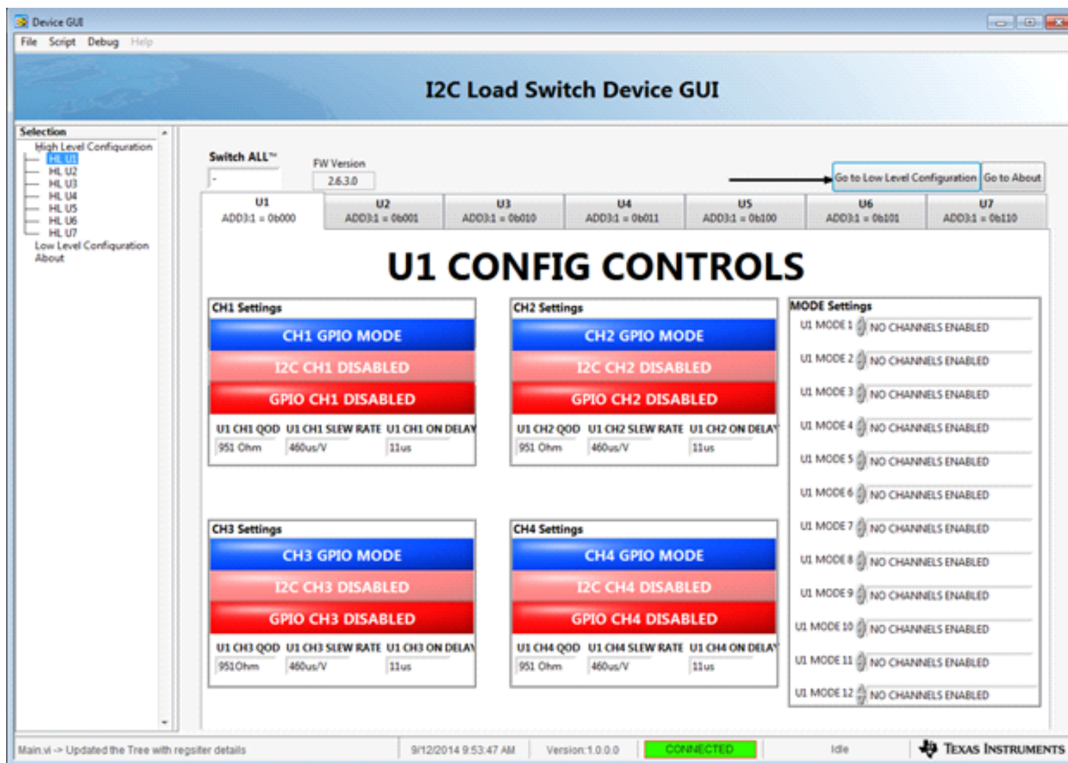

Figure 5. I²C Load Switch GUI Application Window
- (A) Go to All Programs >>> Texas Instrument >> I²C Load Switch GUI to launch the application.
- (B) The I²C Load Switch GUI application window should pop on your screen, see Figure 5.
- (C) You are ready to begin using the software and the demo board.